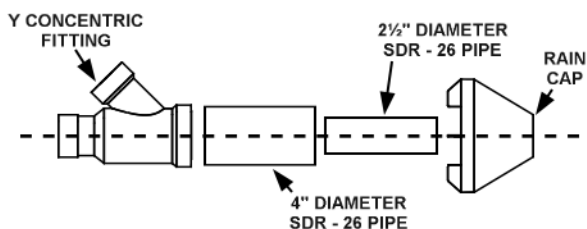

Figure 30. Two-Inch Concentric Termination Kit Dimensions
- Cement the Y concentric fitting to larger diameter kit pipe, see **Figure 30** (page 35).
- Cement the rain cap to the smaller diameter kit pipe. See **Figure 30** (page 35).
Note: May be replaced by using same diameter, field-supplied SDR-26 PVC (D2241) pipe. Do not extend 21 1/8" (53.6 cm) dimension more than 60" (1.5 m). See **Figure 30** (page 35).